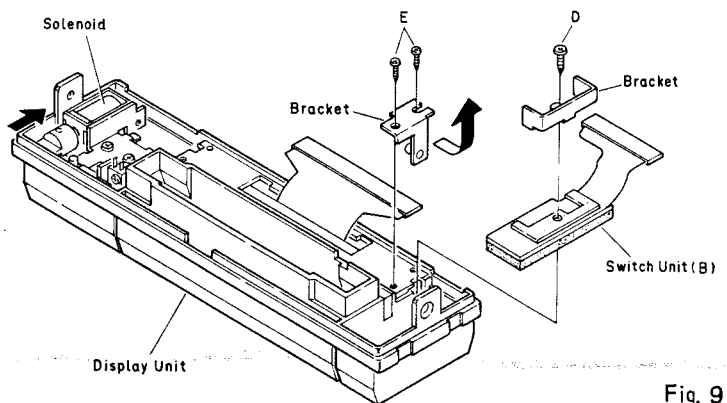

Fig. 9
1. Undo screws E to remove the bracket. Since the bracket serves as a fulcrum about which the display unit can turn, displace the unit sideways as indicated by the arrow to release the unit. (Fig. 9)
2. Depress the solenoid lever in the direction of the arrow to open the display unit. (Fig. 9)